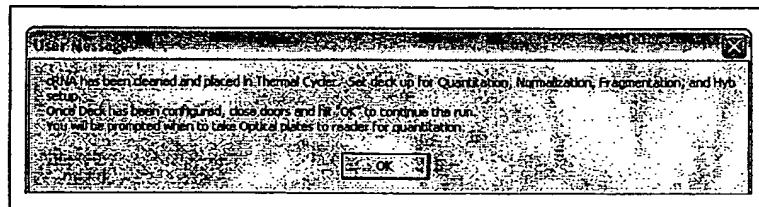
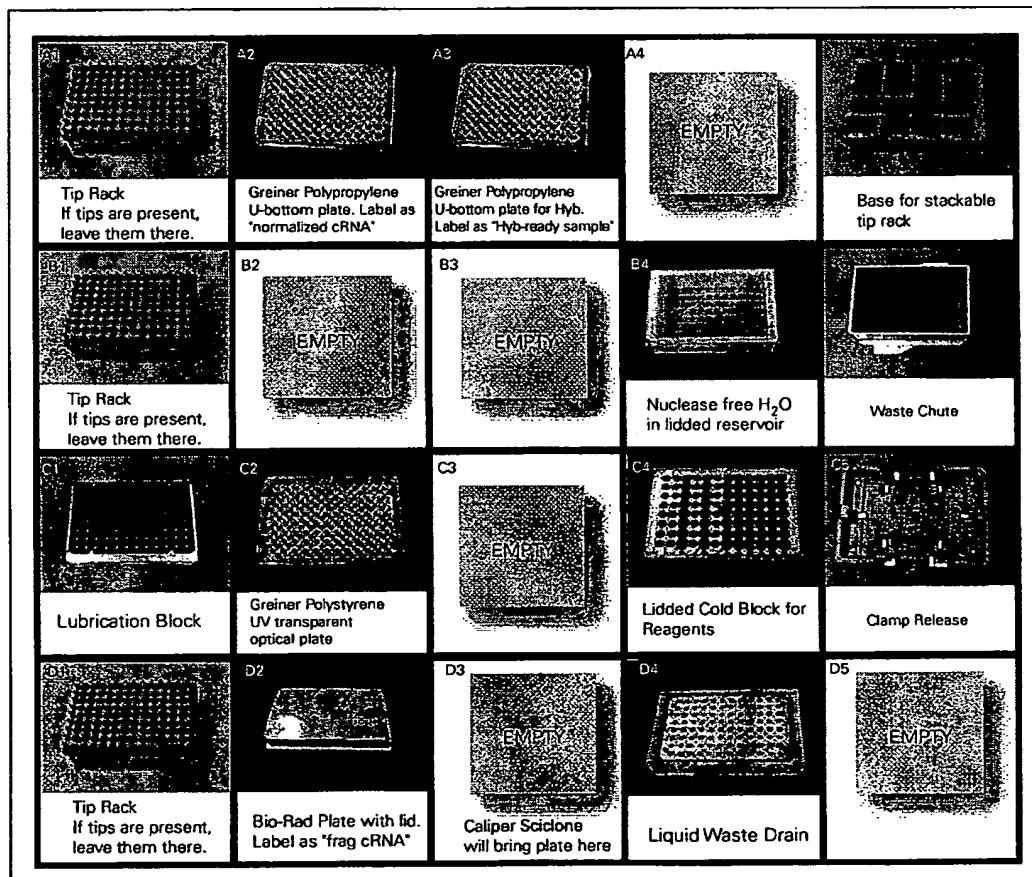

Figure 4.33
Figure 4.34
Do not click OK, as illustrated in the User Message in Figure 4.33, until the deck layout is changed. See Figure 4.34 for an illustration of the deck layout.
1. Change the deck layout as shown in Figure 4.34.